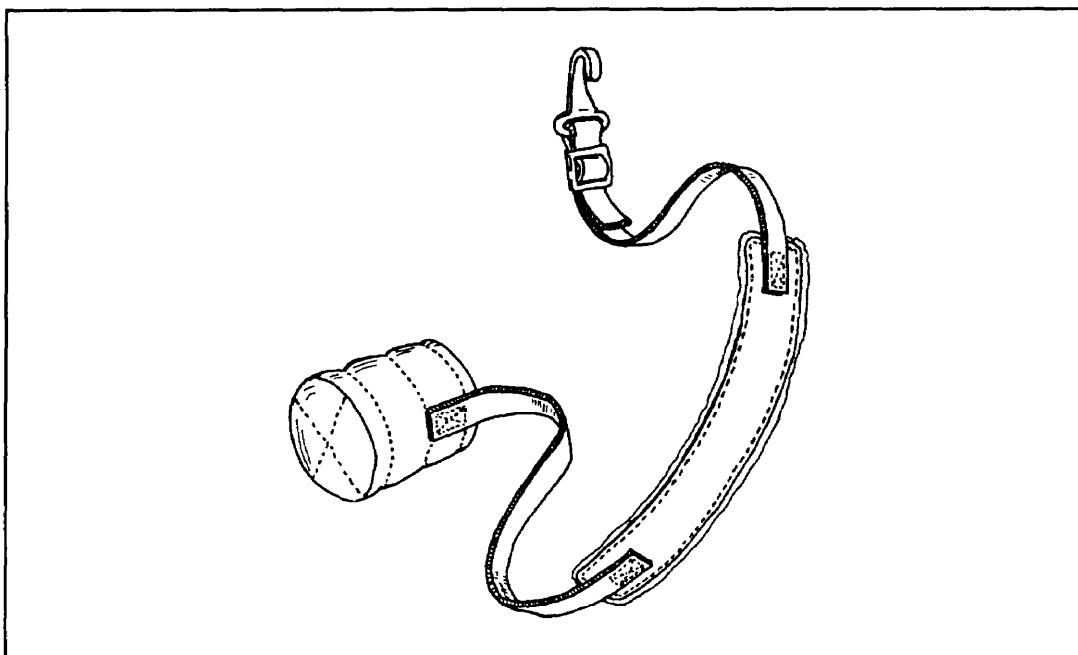

Figure 8-9. Modified M60 machine gun sling.
(2) The M60 machine gun sling can be modified by a direct-support canvas repair unit to make it even more useful as a carrying sling (Figure 8-9). A sewn canvas cup, slightly larger than the tube, can be attached to one end and slipped over the cannon muzzle during transport. It supports the mortar while also preventing dirt, leaves, and other debris from entering the bore and possibly causing a misfire. A sturdy metal hook (locally fabricated) can be placed on the other end of the sling and hooked onto the carrying handle. It will hold the mortar during transport and is easily removed when the mortar is placed into action.